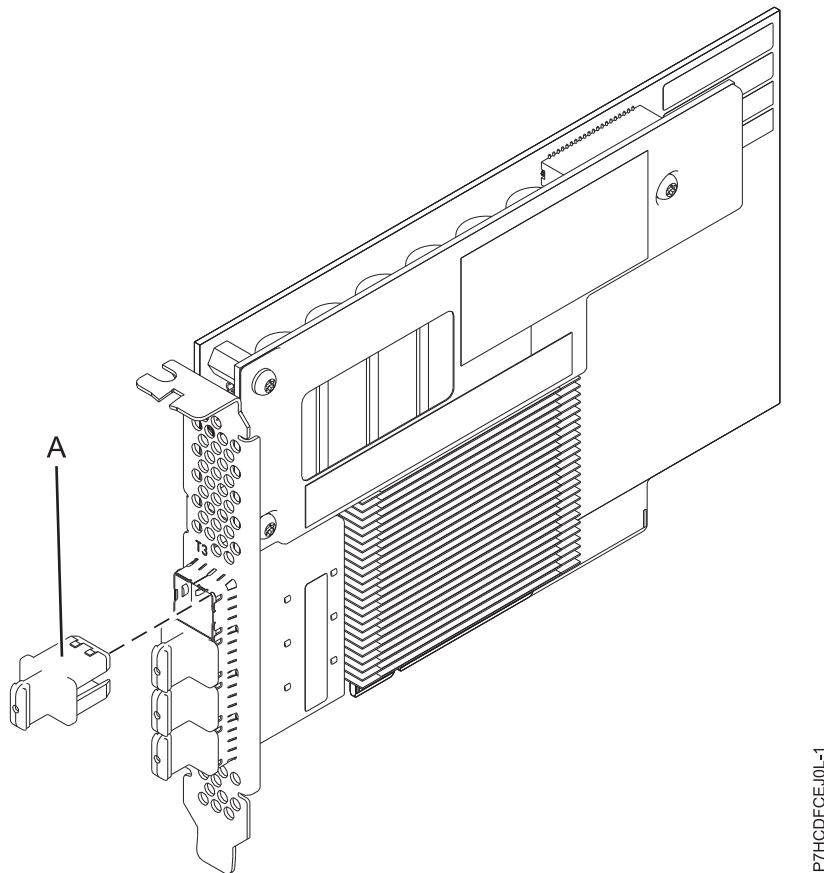

Figure 16. PCIe3 12 GB Cache RAID SAS 6 Gb Adapter
Figure 16 shows the PCIe3 12 GB Cache RAID SAS quad-port 6 Gb adapter. The connector plug (A) is installed in an empty port and prevents damage to that port whenever a cable for the adjacent port connectors is plugged-in or removed.
The FC EJ0L is a single wide, full-height, short adapter. Figure 16 on page 39 shows the FC EJ0L adapter. Every FC EJ0L requires another FC EJ0L on this server, or on another server, which pairs with the SAS RAID adapter and enables cache functionality and the other multi-initiator high availability (dual storage IOA) functions.